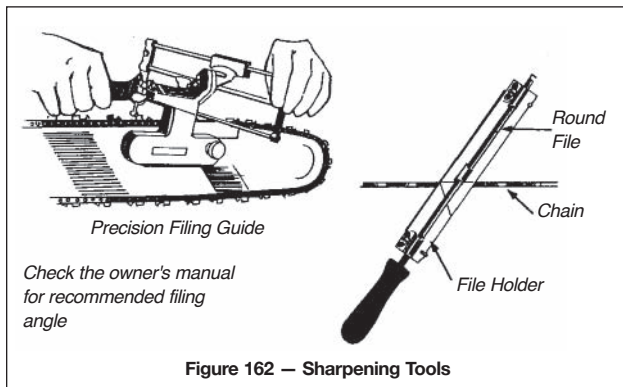

Figure 162 – Sharpening Tools
- A round file used in combination with a file holder or, better yet, a precision filing guide will give the best results (Figure 162).